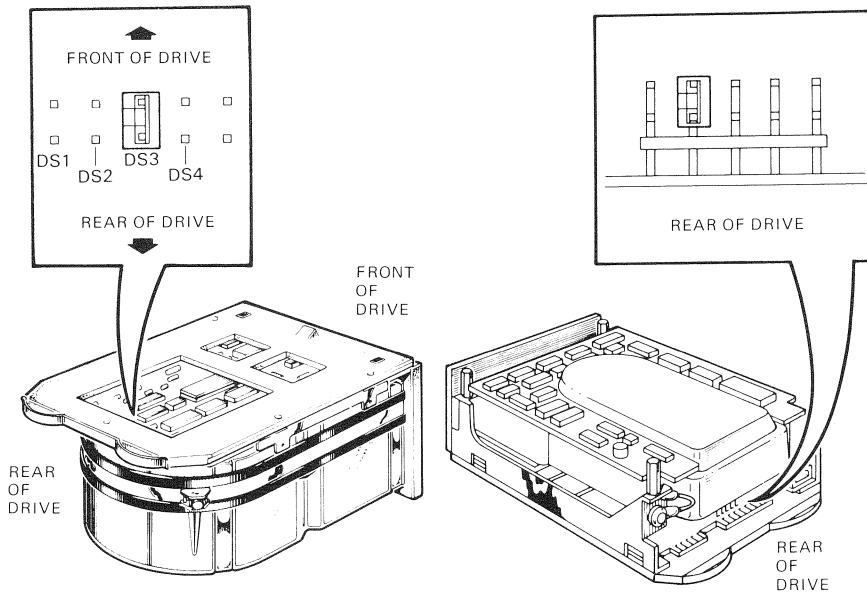

Figure 8-6 RD52 Jumper Clip Setting
7. To configure an RD52 drive as DU0 (installed in port 0), make sure the jumper clip is set at DS3 (Figure 8-6). To configure an internal RD52 drive as DU1 (installed in port 1), place the jumper clip on DS4. Refer to Sections 5.3 and 5.5 for further information.